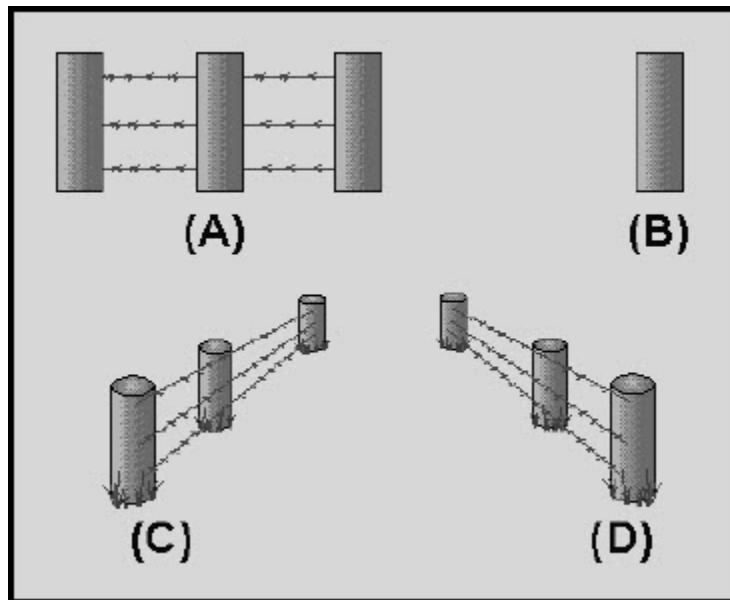

Figure 1-40 Parallax illustration (barbed-wire fence)
The purpose of the mirror on the scale of a meter is to aid in reducing **PARALLAX ERROR**. Figure 1-40 will help you understand the idea of parallax.
Figure 1-40(A) shows a section of barbed wire fence as you would see it from one side of the fence. Figure 1-40(B) shows the fence as it would appear if you were to look down the line of fence posts and were directly in line with the posts. You see only one post because the other posts, being in line, are hidden behind the post you can see. Figure 1-40(C) shows the way the fence would appear if you moved to the right of the line of posts. Now the fence posts appear to the right of the post closest to you. Figure 1-40(D) shows the line of fence posts as you would see them if you moved to the left of the front post. This apparent change in position of the fence posts is called **PARALLAX**.